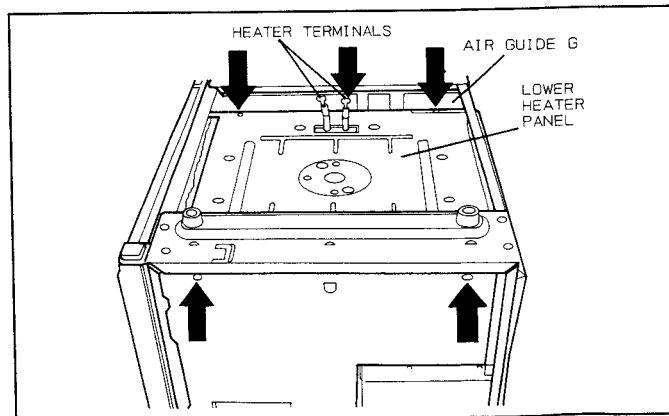
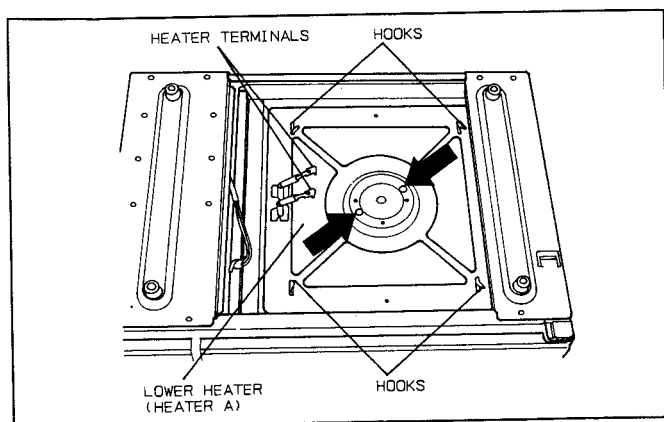

Fig. 30
Fig. 31
- (I) Remove the lower heater panel by removing 5 screws. Be carefull of air guide G. (Fig. 30)
- (J) Remove the adiabatic material A.
- (K) Remove the lower heater (heater A) by freeing the 4 hooks and removing 2 screws. (Fig. 31)